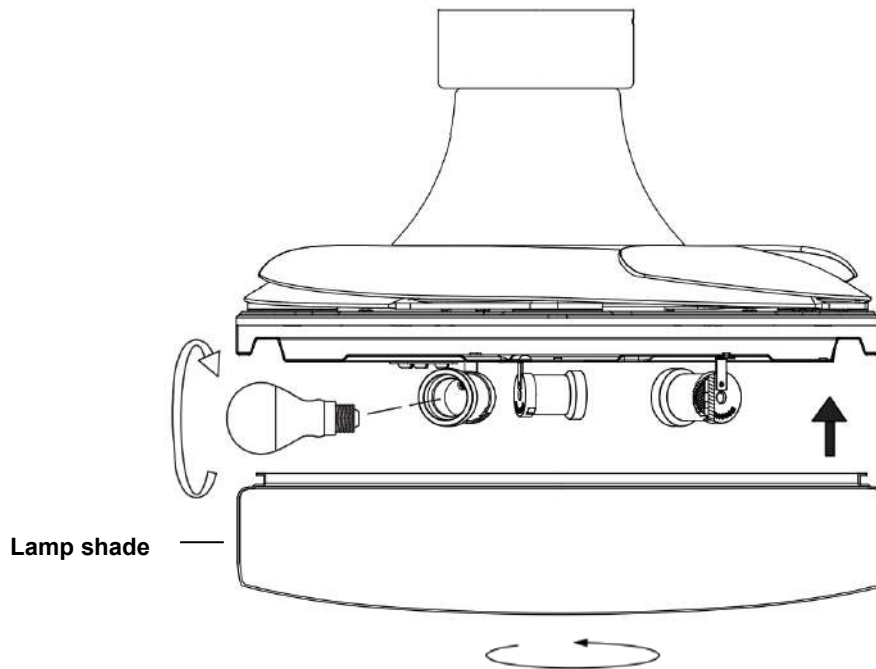

Fig. 11
8. Install the globes to the lamp holders. Do not exceed the maximum power rating (**Fig. 11**).